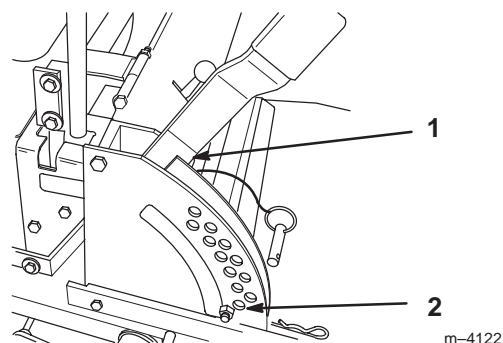
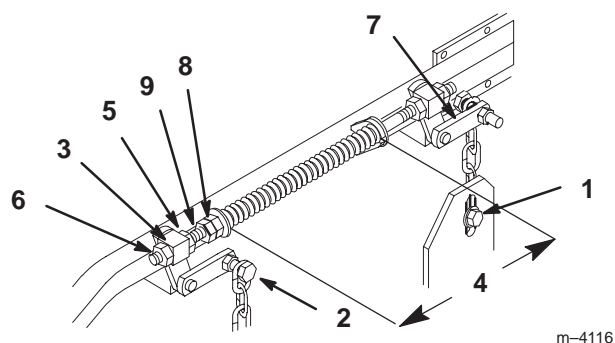

Figure 61
Figure 62
4. Raise the deck to the transport position (Fig. 61). Take force off of the two large deck lift springs by loosening jam nut and front spring nut, in front of each spring, as far as possible (Fig. 62).
5. Place two 1-1/4 in. (35 mm) thick blocks under rear left and right lower edge of mower. Place one 1-3/8 in. (44 mm) block under front center lower edge of mower. Do not place under anti-scalp roller brackets. Lower mower to the 1-1/2 in. (38 mm) height-of-cut position (Fig. 61).
6. Loosen bottom chain bolt in slot at rear of deck. Repeat for opposite side (Fig. 62).
7. Loosen front and rear locking nut on either side of front swivel. Loosen until front chains are loose and deck is supported by blocks. Repeat for opposite side. (Fig. 62).
- When hardware is loosened, remaining tension in the large support springs will tend to rotate the deck lift handle up, out of the 1-1/2 in. (38 mm) position. Press down on the rear deck support arm to firmly return the deck lift handle to the 1-1/2 in. (38 mm) position (Fig. 62).
- While continuing to press down on rear deck support arm, take the slack out of the rear chain and tighten hardware at the bottom (Fig. 62). Downward pressure may now be released. Repeat for opposite side.
- Raise deck lift lever to the transport position (Fig. 61).
- Adjust compression springs by turning the front spring nuts so the distance between the two large washers is 10-1/4" (260 mm). Then tighten jam nut (Fig. 62).